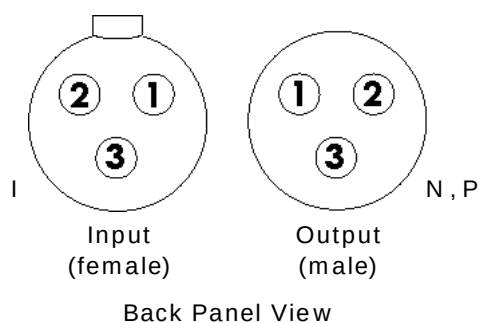

Figure 6
- I- AES/EBU Digital Input - This input will accept a digital signal from a digital source's AES/EBU XLR digital output. A 110 ohm balanced cable terminated with XLR plugs should be used for this connection. NOTE: The XLR jack pin connectors for the Processor 3 are configured as follows: Pin #1: Ground, Pin #2: Positive (+) Polarity, Pin #3: Negative (-) Polarity. See Figure 6.
N,P- XLR Balanced Analog Output (Right & Left) - These are balanced audio outputs and should be used when connecting the Processor 3 to the balanced audio inputs of a line level preamplifier, control amplifier, integrated amplifier or receiver, if these units are so equipped. (Left channel output of the Processor 3 connects to the left channel input of control unit and right channel output of the Processor 3 to the right channel input of control unit.) NOTE: The XLR jack pin connectors for the Processor 3 are configured as follows: Pin #1: Ground, Pin #2: Positive (+) Polarity, Pin #3: Negative (-) Polarity. See Figure 6.